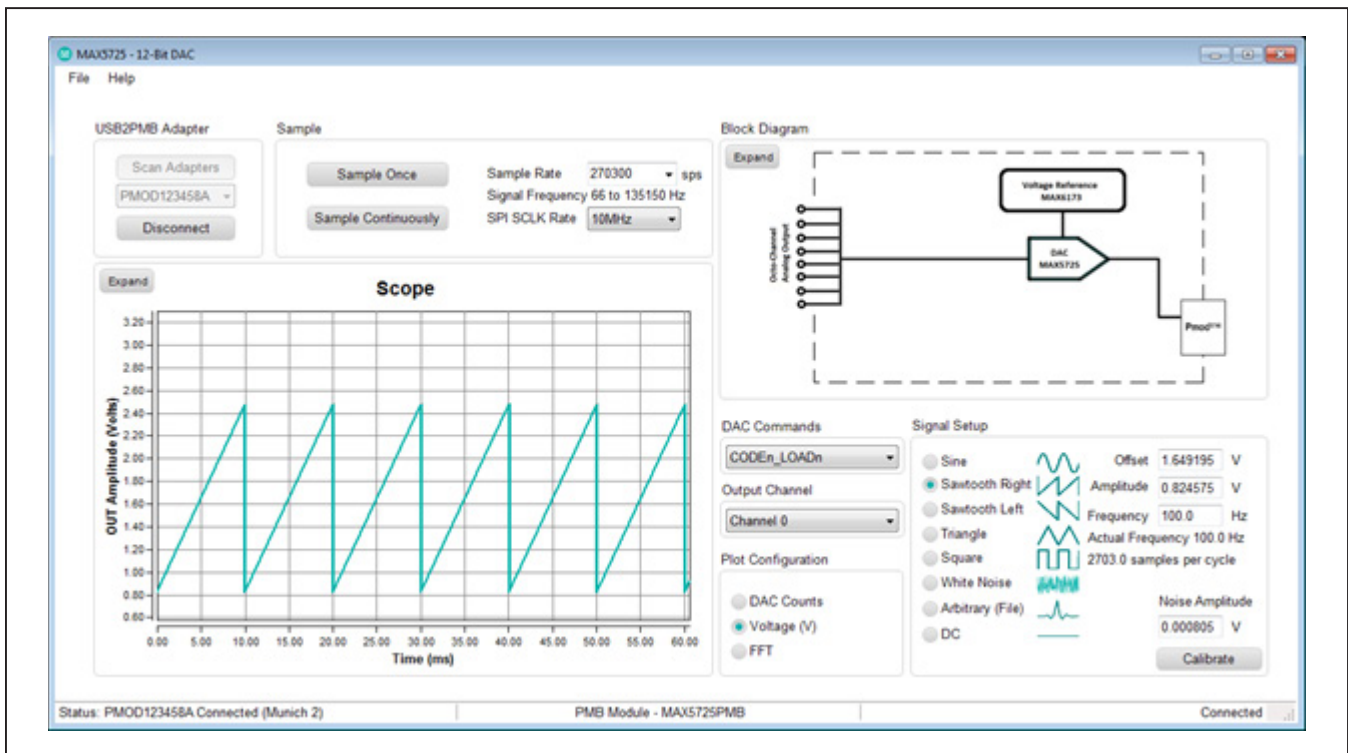

Figure 1. MAX5725 EV System Main Window
- 7) Open the GUI, MAX5725EVKIT.exe (Figure 1).